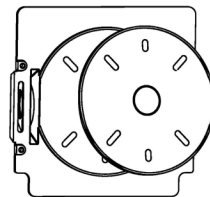

Fig. 3
4. Peel off the yellow sticker and paste it on the round area of the bottom plate (fig. 3)